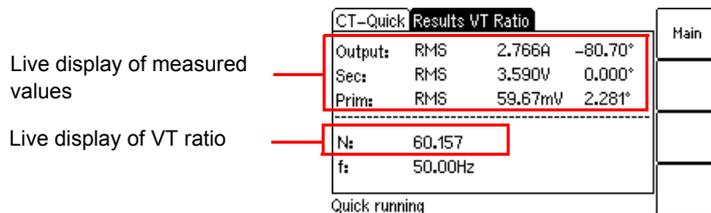

Figure 8-14 **Results** test card for VT ratio measurement
4. Start the measurement by pressing the **I/O** key on the *CT Analyzer* or clicking the **ON** button on the **VT Ratio** tab of the *CTA QuickTest* software. The measured values are displayed and permanently updated as long as the measurement is active. Refer to Figure 8-14.